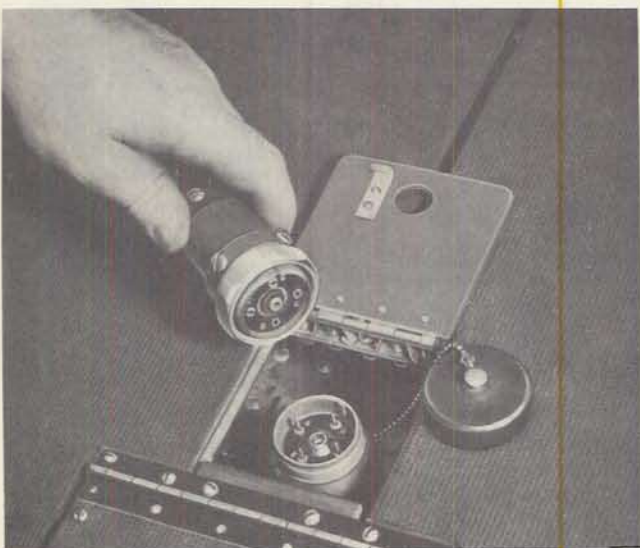

Figure 61—Turret Cable and Plug
c. If a cable is provided, plug into floor outlet (fig. 61).